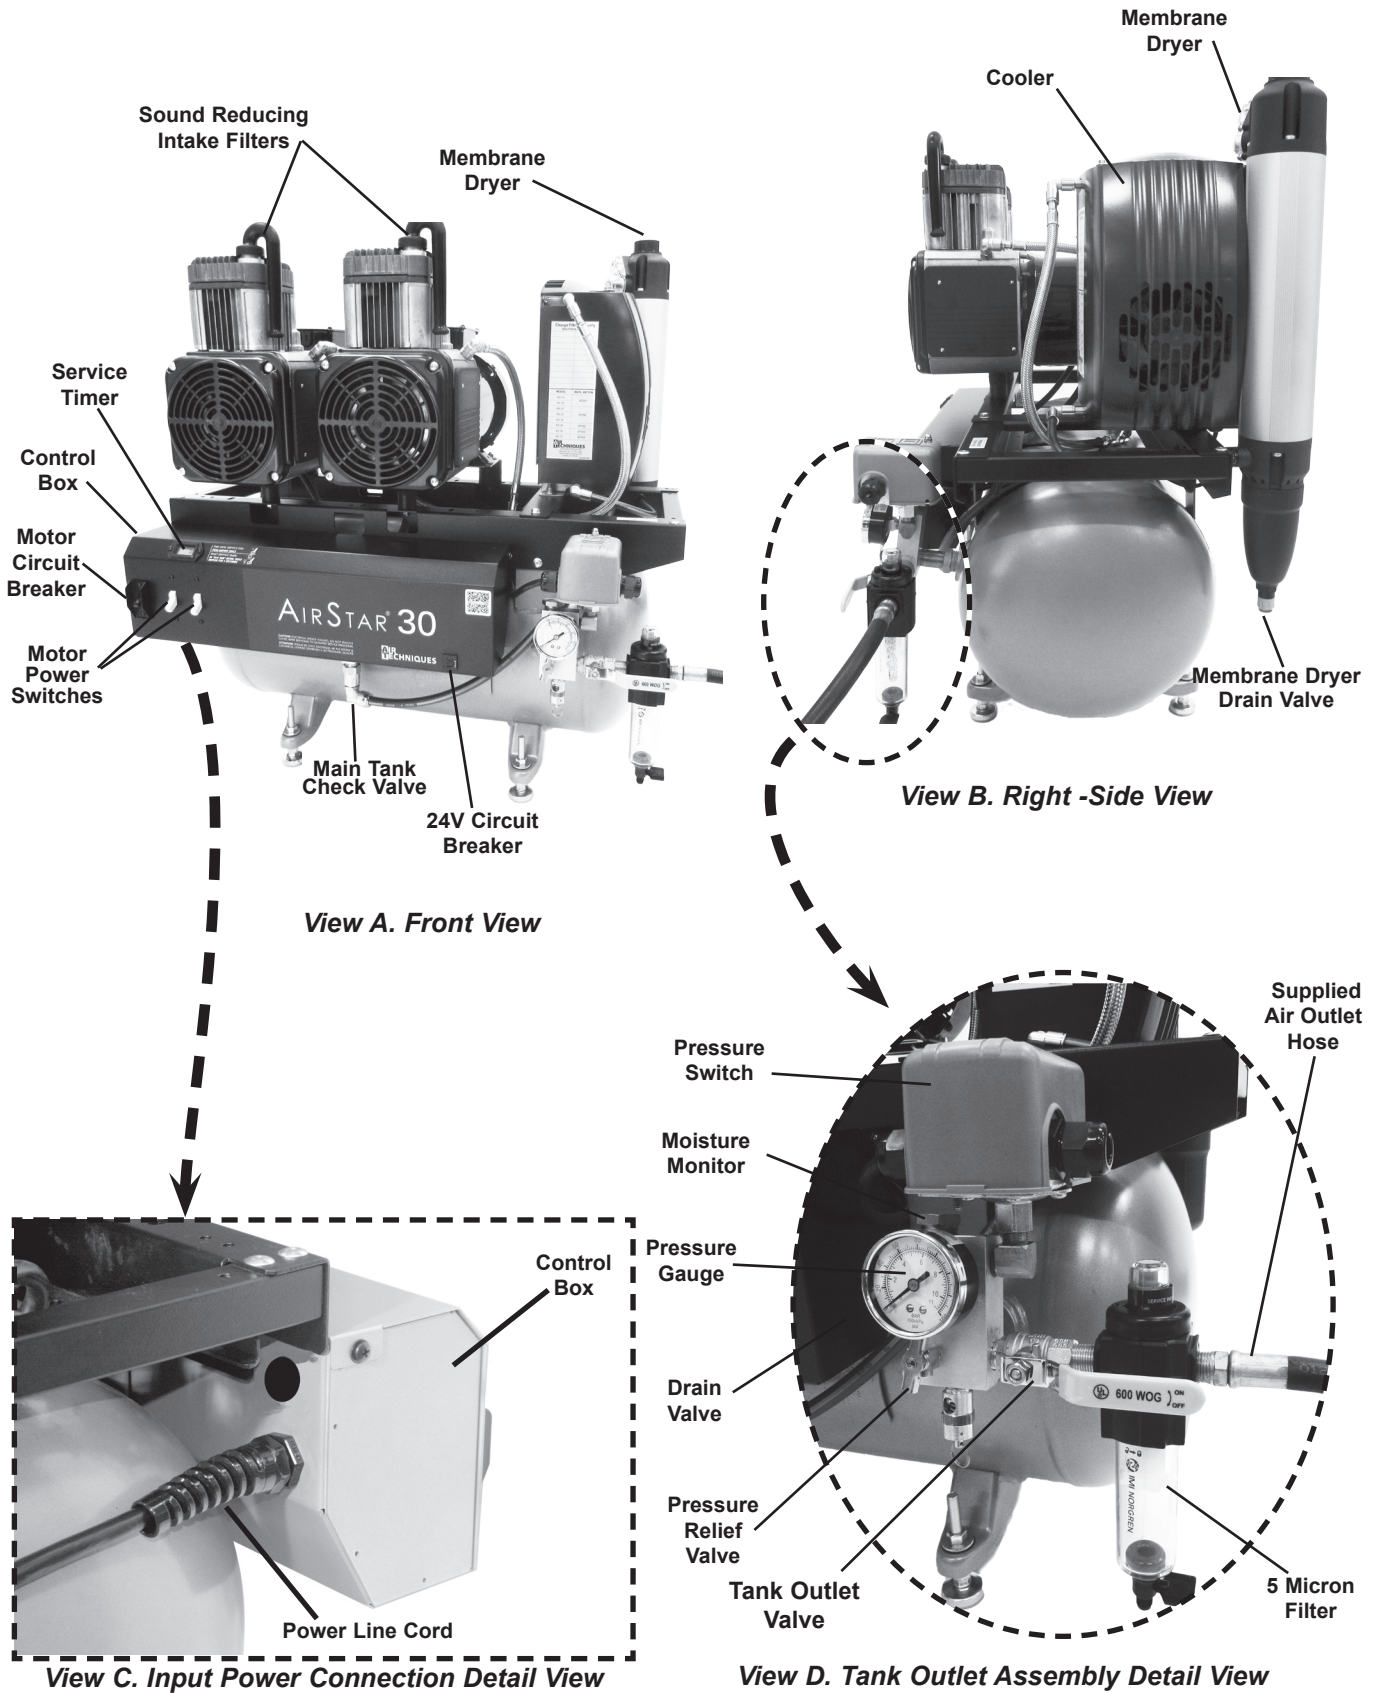

Figure 1. AirStar Parts Location
- **PLUMBING CONNECTION:** The Tank Outlet Assembly (See Figure 1, View A), (the storage tank outlet for the dry air) is connected to the operatory air system via a 3/8" F.N.P.T. shut-off valve and 6 foot length of pressure hose (supplied).